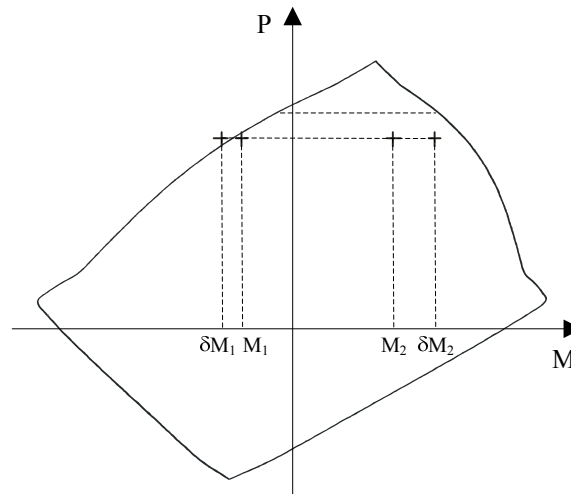

Figure 2-8 Case of unsymmetrical section bent in double curvature (M_1 and M_2 of different sign) with the smaller end moment, M_1 , governing the design
While design codes define moment M_2 as always positive and the sign of moment M_1 depending on single or double curvature bending⁴⁹, spColumn retains actual signs of moments M_1 and M_2 . This revision ensures proper comparison against negative and positive moment capacities of unsymmetrical sections (see Figure 2-8).
2. Moments at column ends, M_1 and M_2 , are calculated, where M_1 is the moment with the smaller absolute value and M_2 is the moment with the larger absolute value. For columns in nonsway frames, the end moments will be equal to the factored applied first order moment. For columns in sway frames, the end moments will be the moments M_1 and M_2 calculated in the procedure for moment magnification at ends of compression member. While design codes define moment M_2 as always positive and the sign of moment M_1 depending on single or double curvature bending⁵⁸, spColumn retains actual signs of moments M_1 and M_2 to ensure proper comparison of resulting magnified moments against negative and positive moment capacities of unsymmetrical sections (see Figure 2-8). This revised interpretation does not affect results of the moment magnification along length procedure because the procedure relies on the M_1/M_2 ratio. spColumn follows the code definition which assumes the ratio to be positive if the member is bent in single curvature and negative if bent in double curvature. If both moments are equal to zero, the program conservatively assumes the ratio of $M_1/M_2 = 1.0$.
11. The factored magnified moment along the length of a compression member, M_c , is the larger⁷⁰ of δM_2 and δM_{\min} . The program also calculates moment M_c based on the smaller end moment, M_1 , to account for scenario when M_1 and M_2 are of different sign (double curvature bending). For an unsymmetrical section, the smaller moment, M_1 , may govern the design when the moment capacity on the negative side of the interaction diagram is smaller than the moment capacity on the positive side (see Figure 2-8).